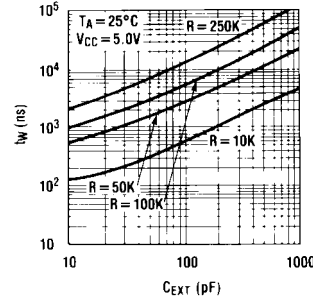

FIGURE 3.
5. For $C_X < 1000$ pF see Figure 3 for t_W vs. C_X family curves with R_X as a parameter: